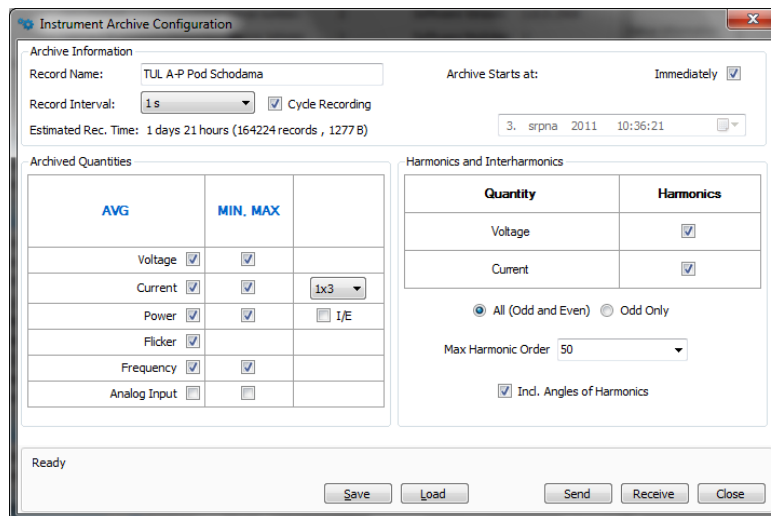

Figure 7: ENVIS.Daq - Archive configuration window
**Archive (see fig. 7)** this settings determines the set of quantities which are being recorded: